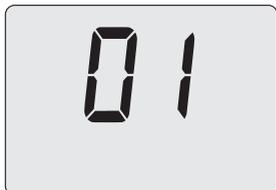

Figure 9.19
- Press 16 and the LCD display shows the number **01**, indicating activation of the “chimney sweep function” at minimum output (Figure 9.19).